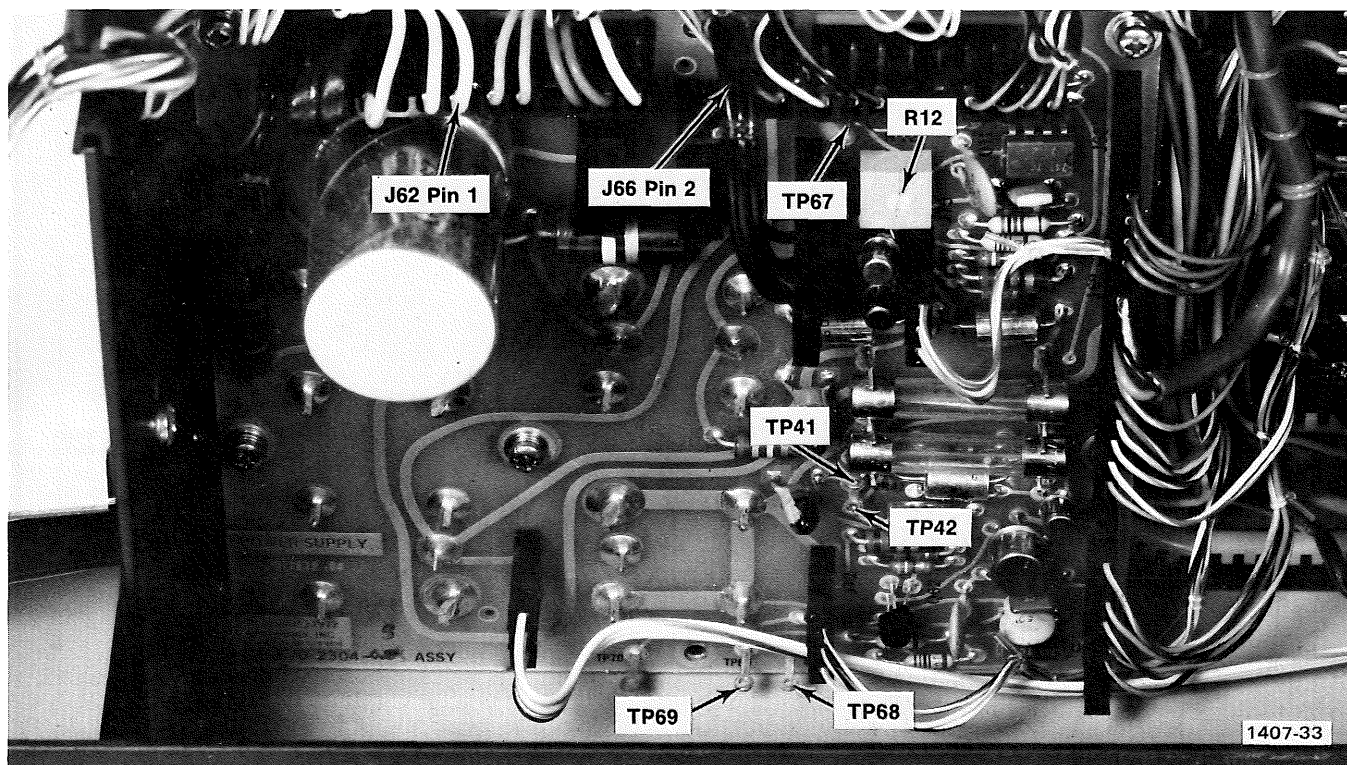

Fig. 3-2. Locations of test points and adjustments on the Power Supply board.
a. Connect the precision dc voltmeter between TP68 on the Power Supply board and ground. See Fig. 3-2.
a. Connect the dc voltmeter to each of the test points called out in Table 3-1 and shown in Fig. 3-2, and measure each of the additional regulated and nonregulated supplies to the tolerances listed in Table 3-1. Voltages shown for the unregulated supplies are approximate, and no tolerances are listed.
a. Connect the leads of the precision dc voltmeter between TP41 (+) and TP42 (-) and measure a voltage of about 26 V ( $\pm 10\%$ , or 23.4 V to 28.6 V). See Fig. 3-2.